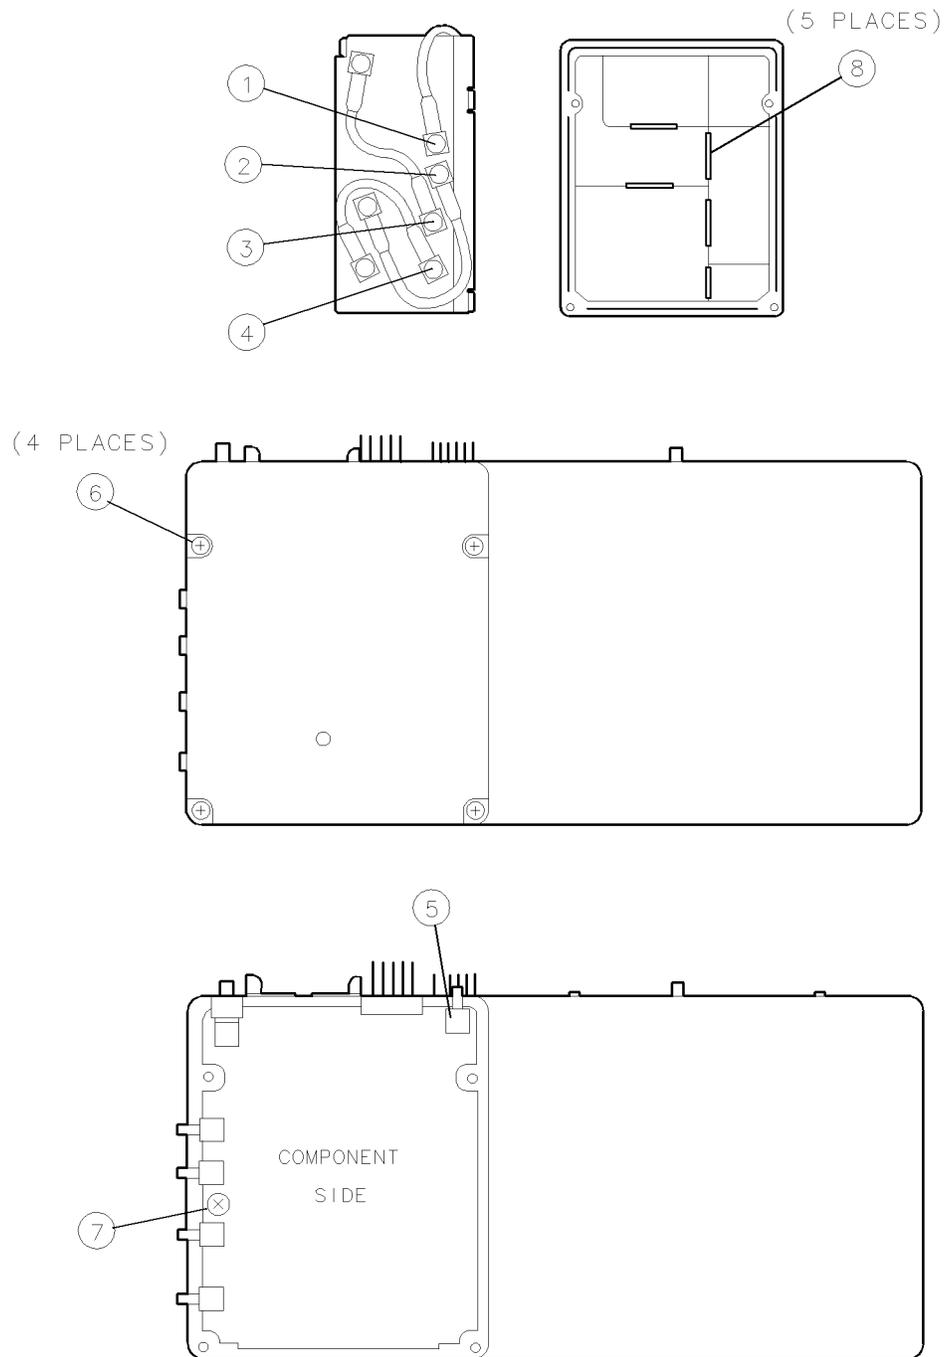

Figure 9-14.
2. Disconnect cables ①, ②, ③, and ④ from the A7A1 FFS phase lock loop. See Figure 9-14.
3. Disconnect cable A7W5 from the assembly jack ⑤.
4. Remove the four screws ⑥ and with the cover side down remove the assembly from the cover. The nonconductive, rubber sleeves used on this cover sometimes stick to the VCO casting. Locate all five sleeves and reserve them for reassembly.
5. Remove the one screw ⑦ from the assembly, then remove the A7A1 FFS phase lock loop.
1. Position the A7A1 FFS phase lock loop in the casting and replace the one screw ⑦. Torque the screw to 6 inch-pounds.
2. Refer to Figure 9-14 for the location of rubber sleeves on the VCO cover ⑧. With the cover side down, position the assembly onto the cover (use the adjustment hole as a guide). Replace the four screws ⑥. Torque screws to 9 inch-pounds.
3. Reconnect A7W5 to the assembly jack ⑤.
4. Reconnect A7W4 ①, A7W1 ②, A7W3 ③, A7W2 ④.